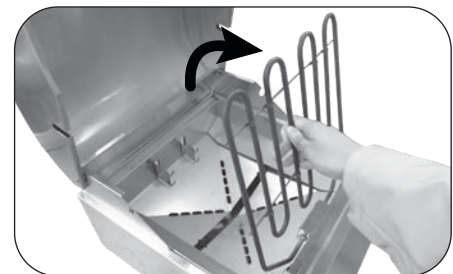

Fig. 22-2 Raise element upward
3. Grasp the cool cooking element, lift upward and apply pressure towards the right of the grill. Once it clears the support tab, completely raise it up (Fig. 22-2).